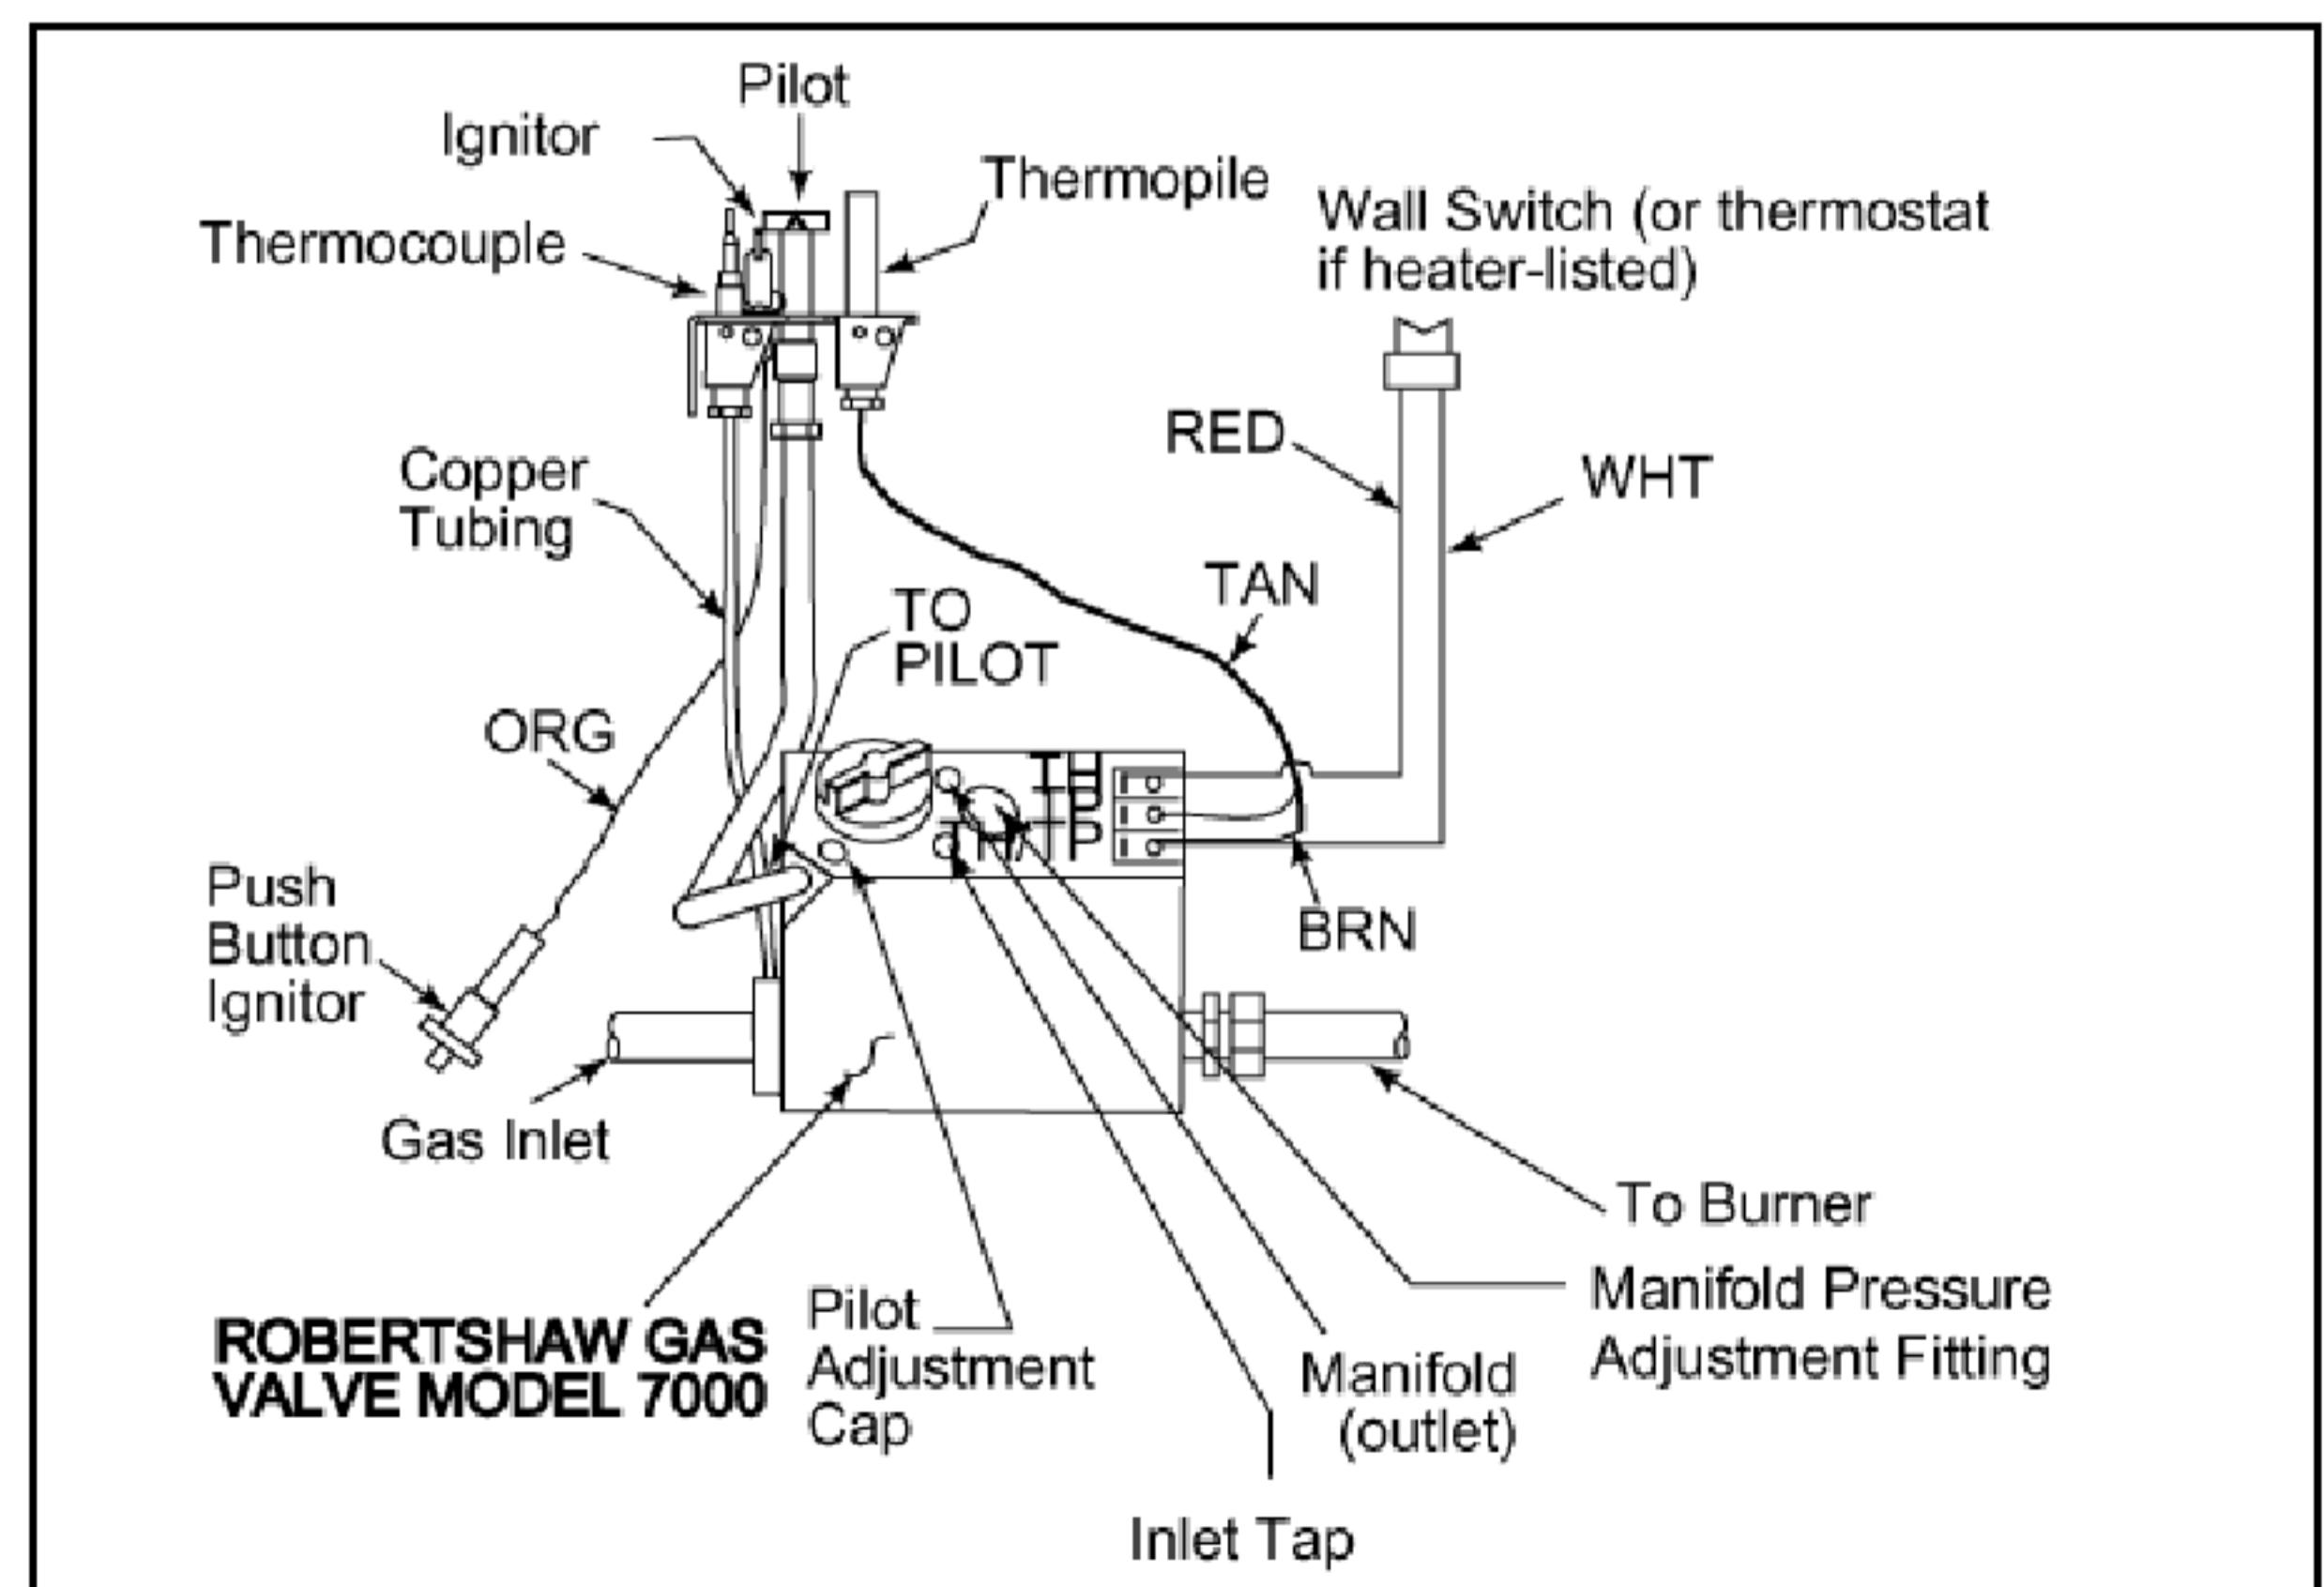

Figure 39 - Standing Pilot Ignition Wiring Diagram
- 2) Only heater-listed appliances may be connected to a thermostat (not supplied). Use a thermostat that is compatible with a millivolt gas valve. See Figure 39.